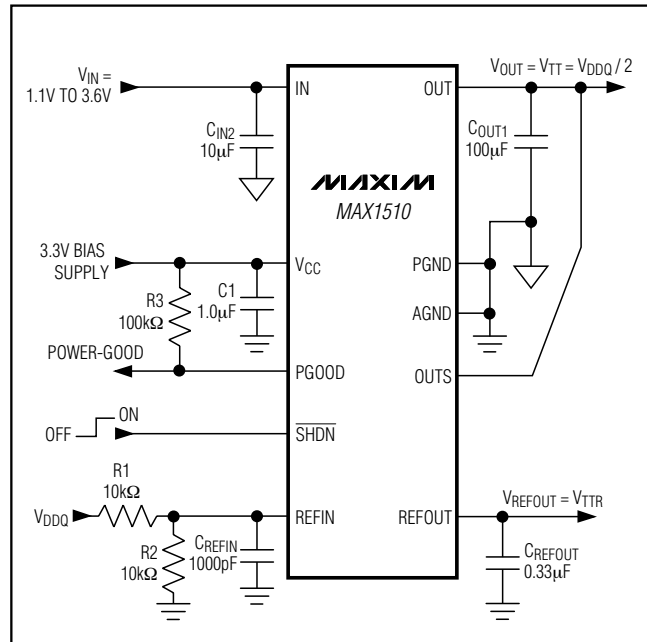

Figure 1. Standard Application Circuit
($V_{IN} = 1.8\text{V}$, $V_{CC} = 3.3\text{V}$, $V_{REFIN} = V_{OUTS} = 1.25\text{V}$, $\overline{\text{SHDN}} = V_{CC}$, circuit of Figure 1, $T_A = -40^\circ\text{C}$ to $+85^\circ\text{C}$, unless otherwise noted. Typical values are at $T_A = +25^\circ\text{C}$.) (Note 1)
($V_{IN} = 1.8V$, $V_{CC} = 3.3V$, $V_{REFIN} = V_{OUTS} = 1.25V$, $\overline{SHDN} = V_{CC}$, circuit of Figure 1, $T_A = -40^{\circ}C$ to $+85^{\circ}C$, unless otherwise noted. Typical values are at $T_A = +25^{\circ}C$.) (Note 1)
(Circuit of Figure 1. $T_A = +25^\circ\text{C}$, unless otherwise noted)
The MAX1510 is a low-voltage, low-dropout DDR termination linear regulator with an external bias supply input and a buffered reference output (see Figures 1 and 2). V_{CC} is powered by a 2.7V to 3.6V supply that is commonly available in laptop and desktop computers. The 3.3V bias supply drives the gate of the internal pass transistor, while a lower voltage input at the drain of the transistor (IN) is regulated to provide V_{OUT}. By using separate bias and power inputs, the MAX1510 can drive an n-channel high-side MOSFET and use a lower input voltage to provide better efficiency.
The MAX1510 regulates OUTS to the voltage set at REFIN, making the MAX1510 ideal for memory applications where the termination supply must track the supply voltage. Typically, REFIN is set by an external resistive voltage-divider connected to the memory supply (VDDQ) as shown in Figure 1.